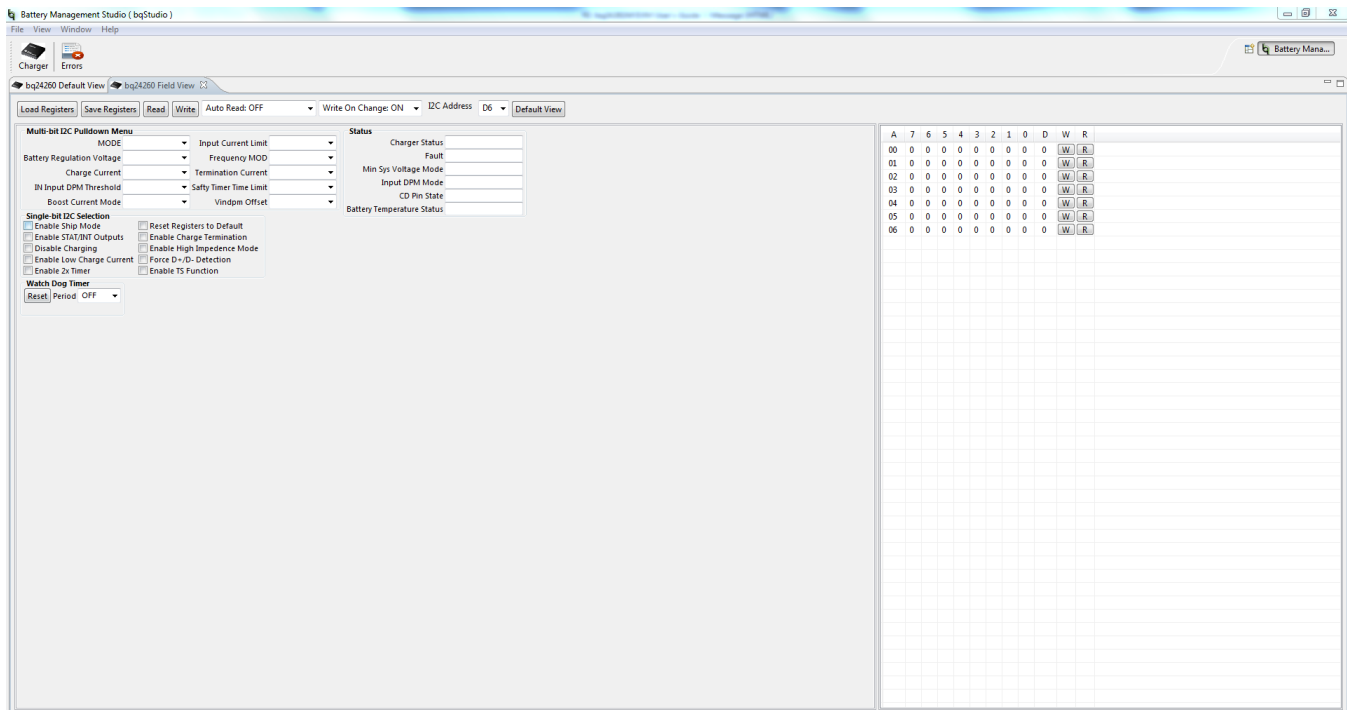

Figure 5. Main Window of bq24261MSW Evaluation Software
10. Turn on the computer. Open the bq24261M evaluation software. The main window of the software is shown in Figure 5.